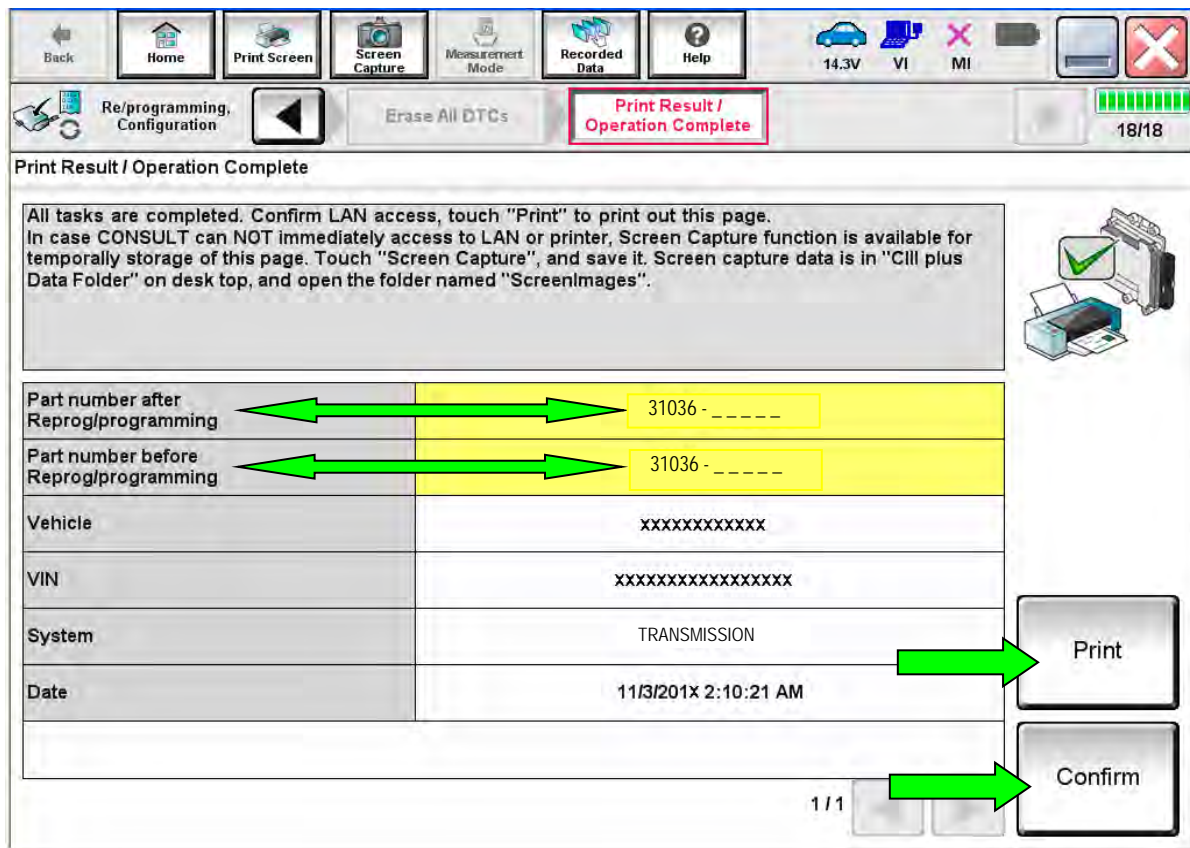

Figure 45
12. When the entire reprogramming process is complete, the screen in Figure 45 will display.
14. Print a copy of this screen (Figure 45) and attach it to the repair order for warranty documentation.